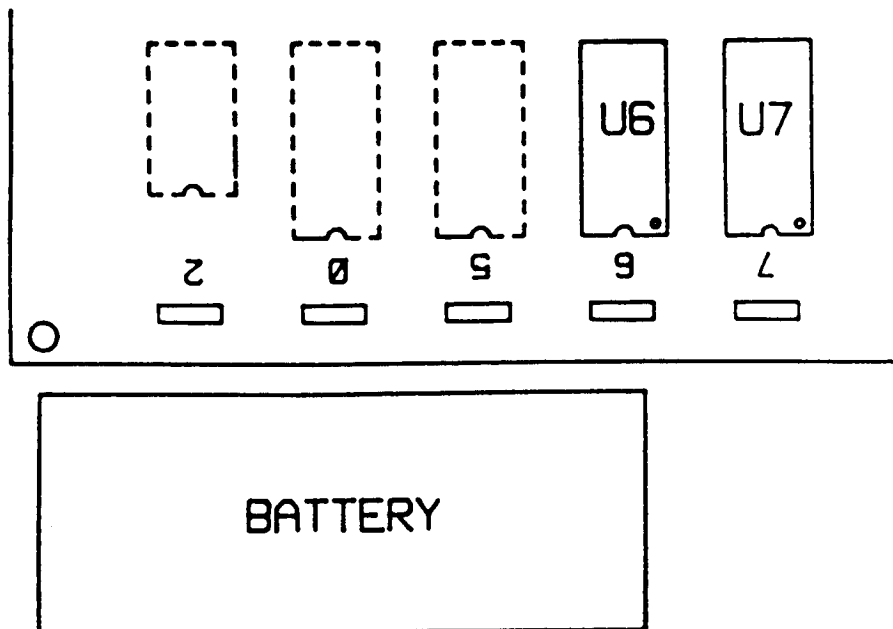

FIGURE 7.5A: EPROMS U6 AND U7
4. Carefully lift the bottom of the cover to expose the battery and printed circuit board. Figure 7.5A shows the location of U6 and U7. These EPROMs must be replaced with the EPROMs that contain the updated software.
Before inserting each new EPROM, make sure that Pin 1 of the EPROM is located at the lower right corner of the socket (see Figure 7.5A).